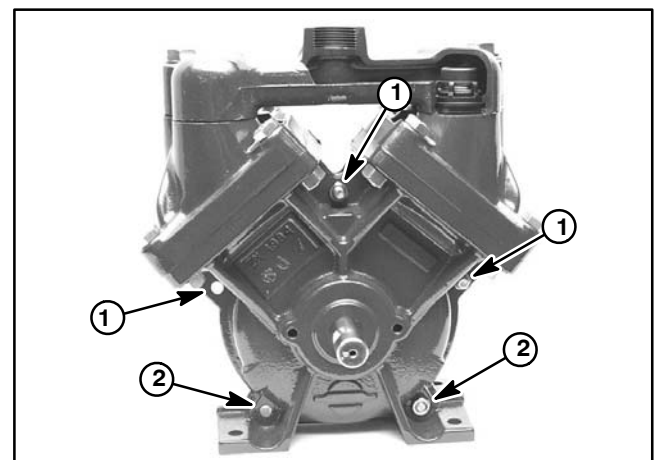

Figure 11
3. Install three (3) shorter (30 mm) and two (2) longer (55 mm) bolts into pump casing assembly (Fig. 11). Thread hex nuts onto bolts but do not fully tighten. Check that crankshaft turns freely.